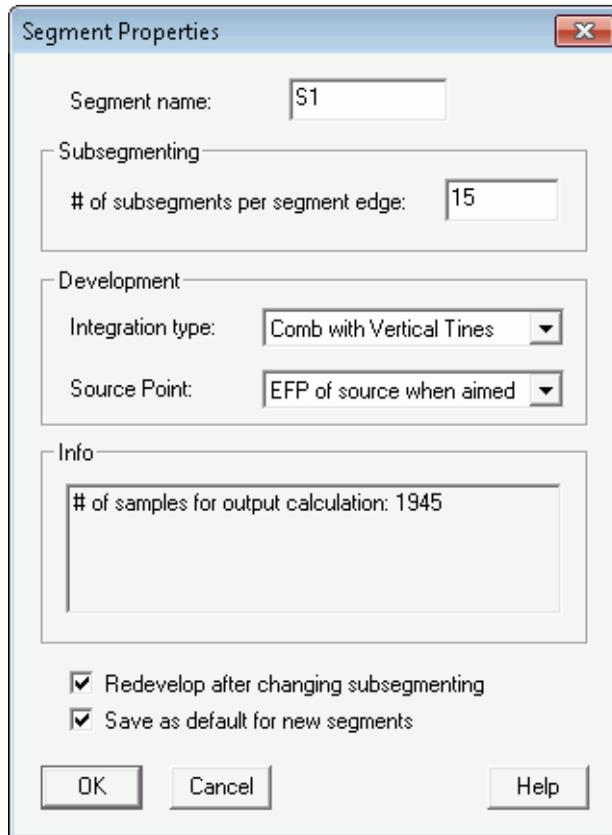

Figure 1.13 Setting segment properties for S1
- 2 Complete the Segment Properties dialog box as shown in Figure 1.13.